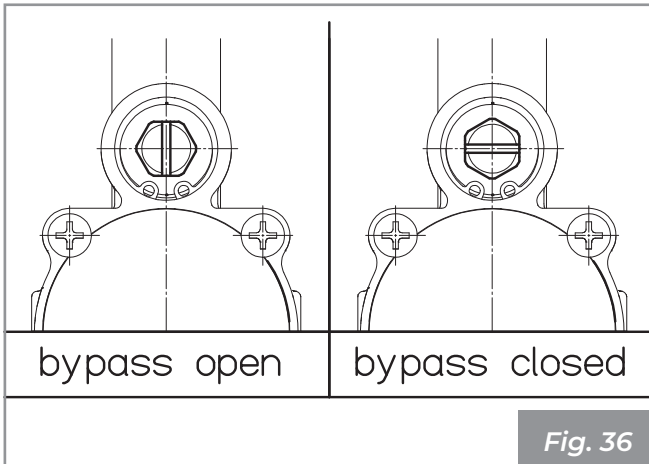

Fig. 36
- Close the bypass tap present in the anti condensation valve (Fig. 36).